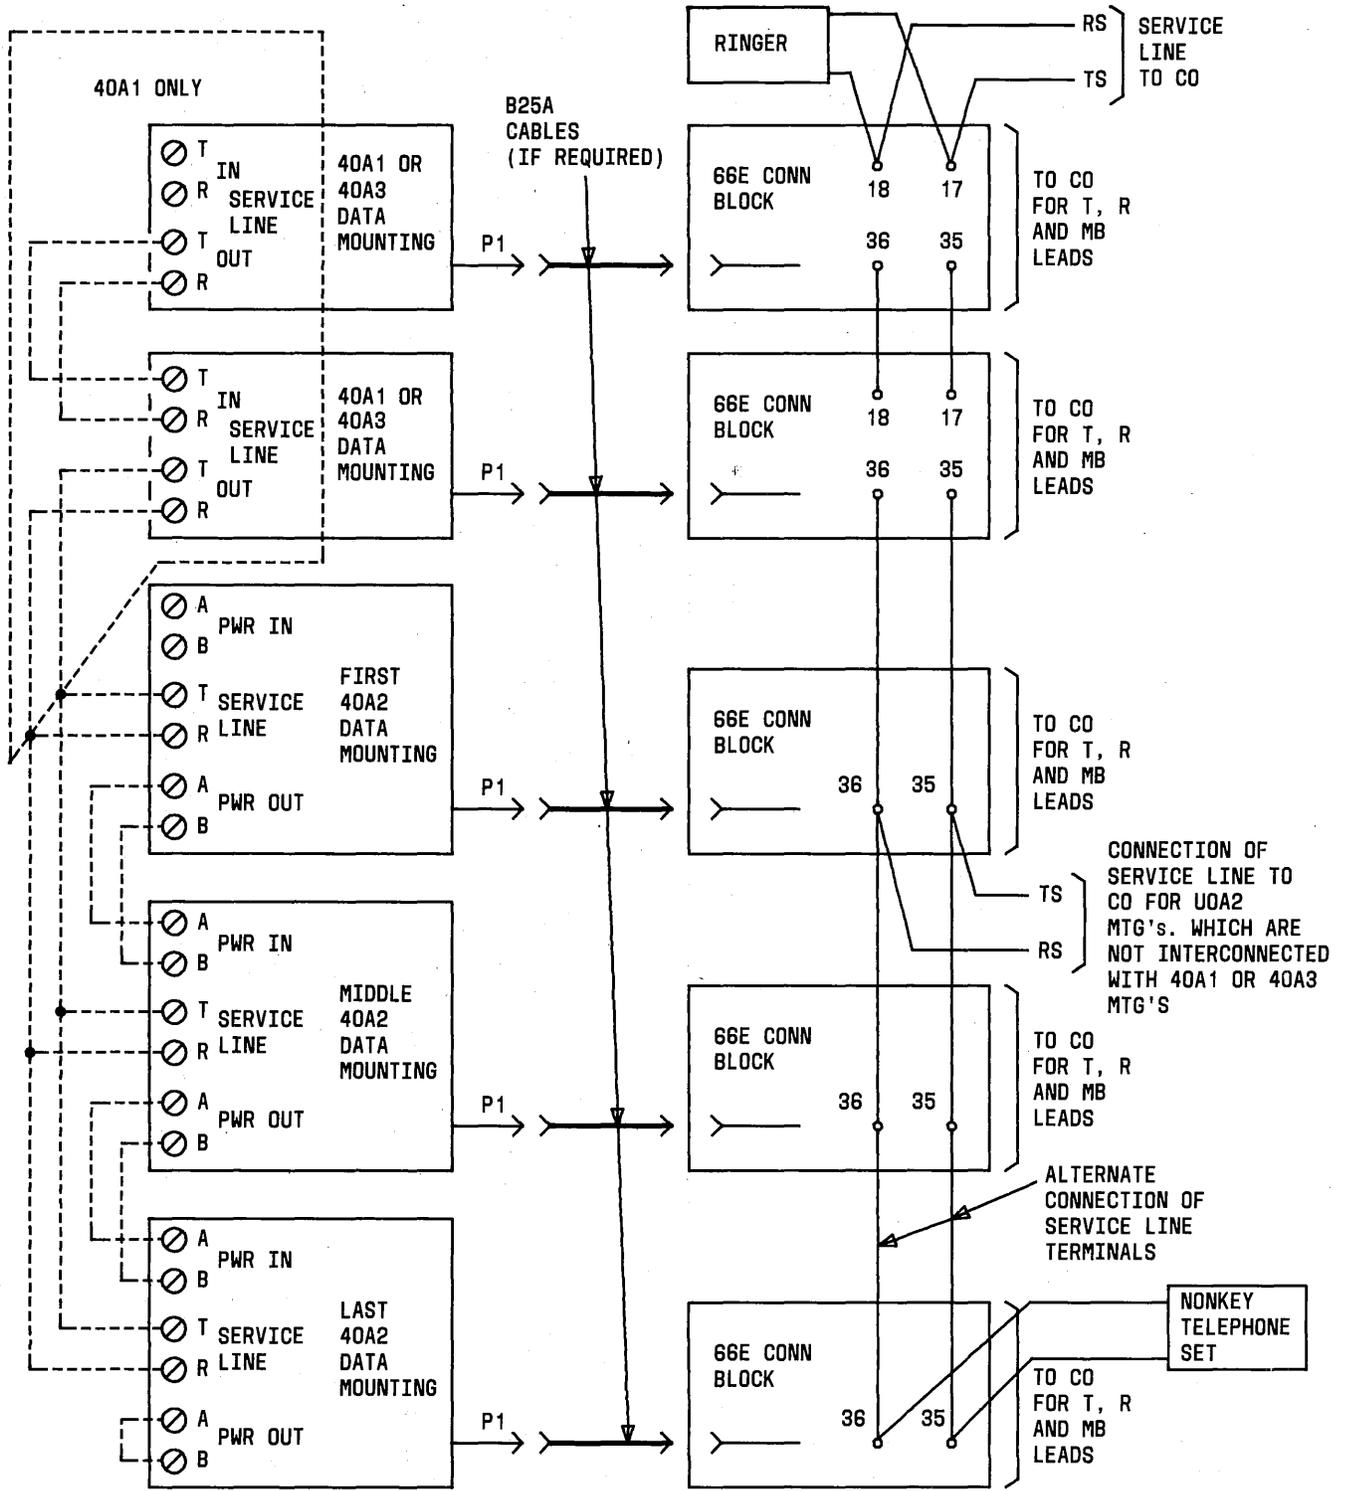

Fig. 5—Interconnection for Shared Service Line for Mixed 40A1, 40A2, and 40A3 Data Mountings
**2.11** If 40A2 data mountings are added to an installation equipped with 40A1 data mountings, refer to Fig. 5 for interconnecting service lines. To obtain proper exclusion when 40A2 data mountings
**2.21** If 40A3 data mountings are added to an installation equipped with 40A1 and/or 40A2 data mountings, refer to Fig. 5 for interconnecting service lines. To obtain proper exclusion when 40A2 data mountings are used in combination with 40A1 and 40A3 data mountings, the 40A2 data mountings should be grouped together and connected after the last 40A1 or 40A3 data mounting. With the 40A1 or 40A3 data mounting, telephone access to the service line is excluded when any data set is connected to the service line. With the 40A2 data mounting, data sets in any position in the 40A2 data mounting do not exclude telephone access to the service line.